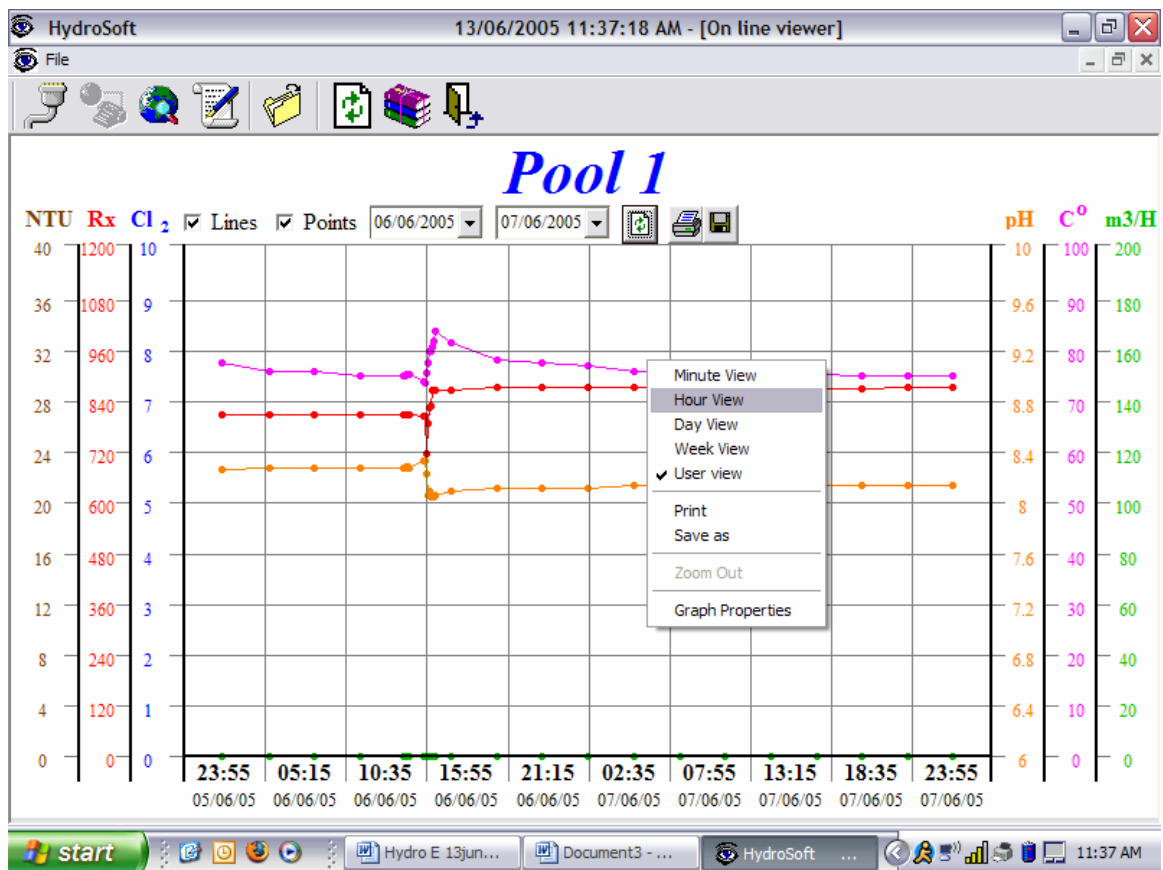

Figure 13: Selecting the Preferred Time View
3. Right click to select the x-axis option of minutes, hours, days, etc (figure 13)